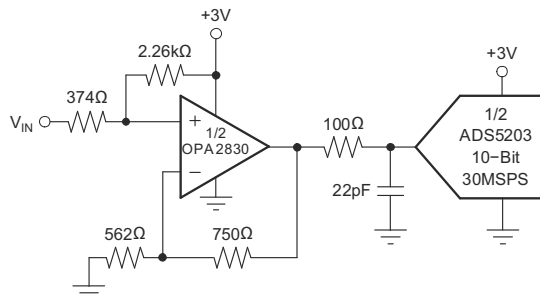
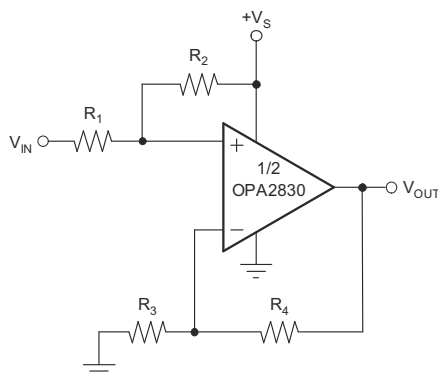

Figure 8-4. DC-Coupled, 3V ADC Driver
Figure 8-5. DC Level Shifting
The ADC interface of Figure 8-4 shows a dc-coupled, single-supply ADC driver circuit. Many systems are now requiring 3V to 5V supply capability of both the ADC and ADC driver. The OPA2830 provides excellent performance in this demanding application. The large input and output voltage ranges and low distortion support converters, such as the ADS5203 in the figure on page 1. The input level-shifting circuitry is designed so that V_{IN} can be between 0V and 0.5V, while delivering an output voltage of 1V to 2V for the ADS5203.
Figure 8-5 shows the general form of Figure 8-4 as a dc-coupled noninverting amplifier that level-shifts the input up to accommodate the desired output voltage range. Given the desired signal gain (G), and the amount V_{OUT} must be shifted up (ΔV_{OUT}) when V_{IN} is at the center of the range, the following equations give the resistor values that produce the desired performance. Assume that R_4 is between 200Ω and 1.5kΩ.
The circuit of Figure 8-4 is a good example of this type of application. The circuit designed to take V_{IN} between 0V and 0.5V and produce V_{OUT} between 1V and 2V when using a 3V supply. This means $G = 2.00$, and $\Delta V_{OUT} = 1.50V - G \times 0.25V = 1.00V$. Plugging these values into the previous equations (with $R_4 = 750\Omega$) gives: $NG = 2.33$, $R_1 = 375\Omega$, $R_2 = 2.25k\Omega$, and $R_3 = 563\Omega$. The resistors were changed to the nearest standard values for the circuit of Figure 8-4.